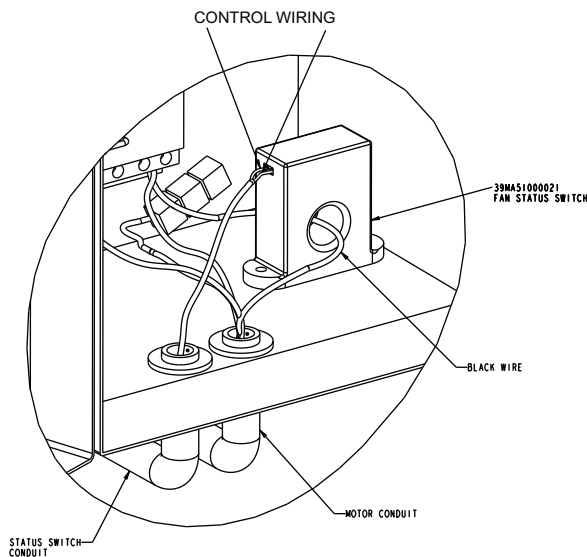

Fig. 18 — Fan Status Switch Installation
2. Loop (1 turn) "Black" wire from the conduit assembly running into the starter/disconnect/VFD/bypass from the motor through the sensor as shown in Fig. 18.
4. Connect the control wiring to the control connection terminals near the top of the fan status switch as shown in Fig. 18.